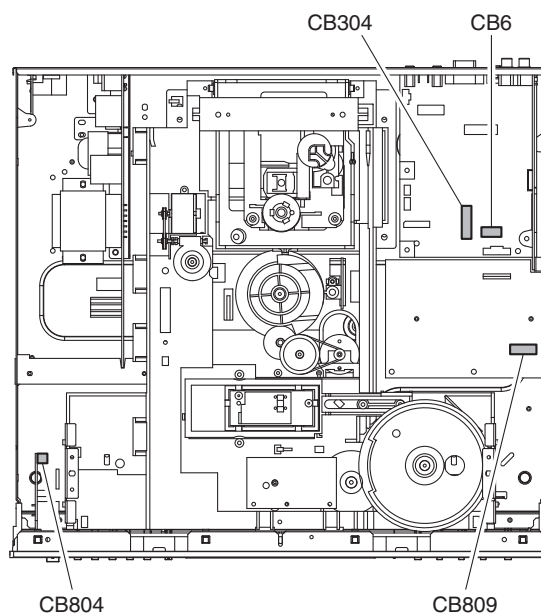

Fig. 7
- b. Remove CB6, CB304, CB804 and CB809. (Fig. 7)